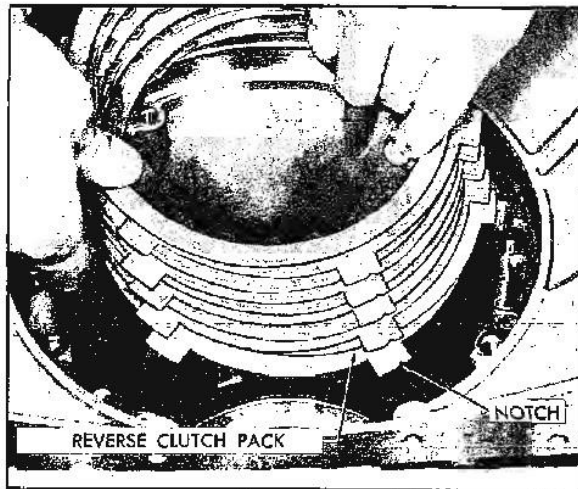

Fig. 7B-118 Installing Reverse Clutch Rack
8. Insert feeler gauge between any reaction plate and adjacent drive (faced) plate. If clearance is .025" to .060", running clearance is correct. If clearance is not within these limits, refer to chart in Fig. 7B-120 to select correct thickness of pressure plate to adjust running clearance.